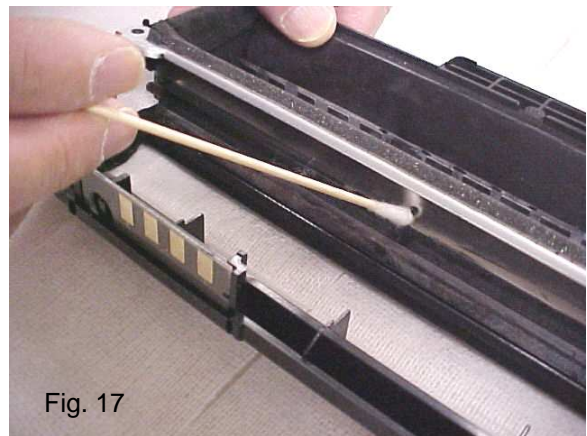

Fig. 17
17. Oasis highly recommends cleaning the doctor blade in place. Clean the doctor blade with a cotton swab dampened in alcohol. For heavy toner build up, use acetone and then alcohol. Be careful not to press too hard and damage the delicate blade (Fig. 17).